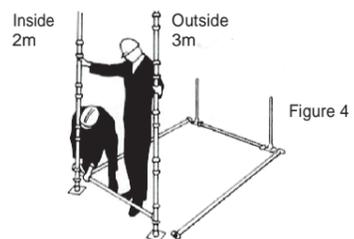

Figure 4
**5** Connect the Standards with a Transom in the lowest cup joint, by inserting the blades into the bottom cups. Approximately level the transom by raising or lowering the Adjustable Base. Always start the scaffold with a 3 metre Standard on the outside face and a 2 metre Standard on the inside. Refer Figure 4.